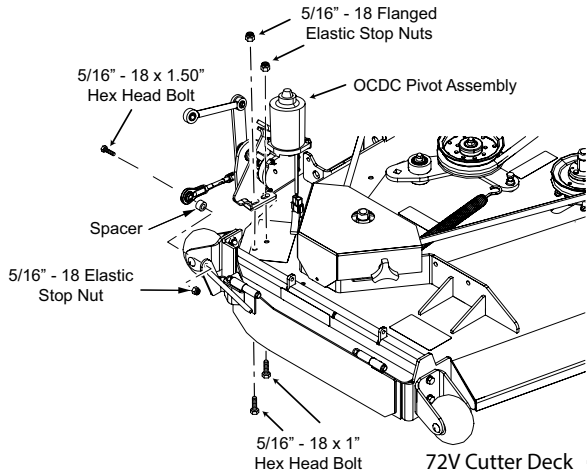

Figure 3-21. 72V OCDC Pivot Assembly Install
19. Fasten the lower control linkage of the pivot assembly to the block off weldment using one (1) 5/16-18 x 1-1/2" bolt, spacer and 5/16" elastic locknut. See Figure 3-21.
3. Secure the RF control module and guard to the mounting bracket using two (2) 1/4-20 x 1" bolts, two 1/4" flat washers, and two (2) 1/4" - 20 elastic stop nuts. See Figure 3-21.